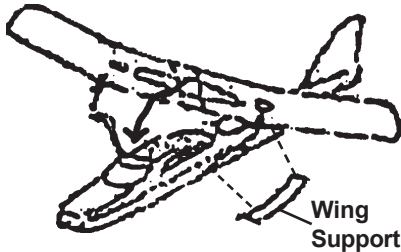

Figure 1-Wing to Fuselage
2. Peel off the cover from the two small pieces of adhesive tape on the underside of both wings. Adhere the two Wing Supports to the Wing-see Figure 1.